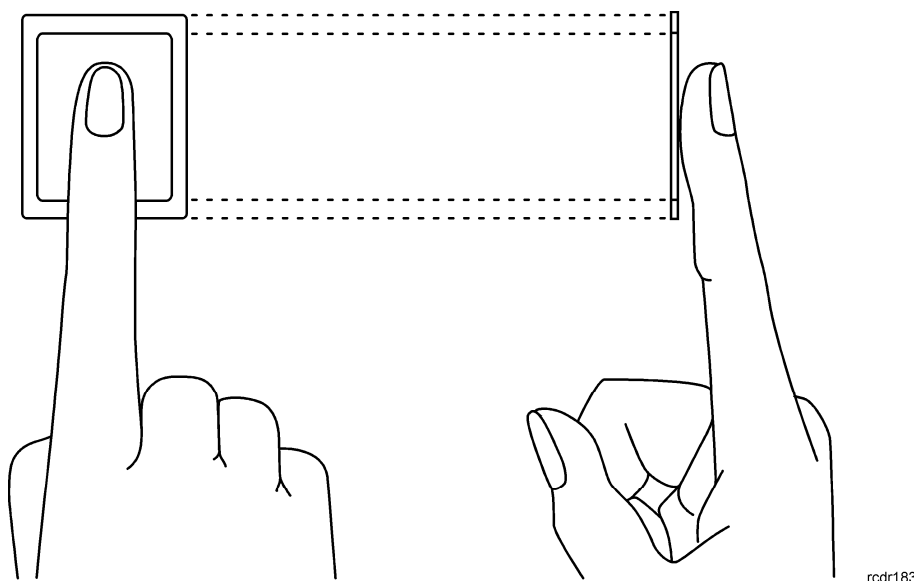

Fig. 5 Proper placing of finger on optical scanner
- Proper finger placing for the purpose of fingerprint reading is shown in fig. 5. In case of kids (small fingerprints) it is recommended to verify fingerprint reading prior to installation of RFT1000.